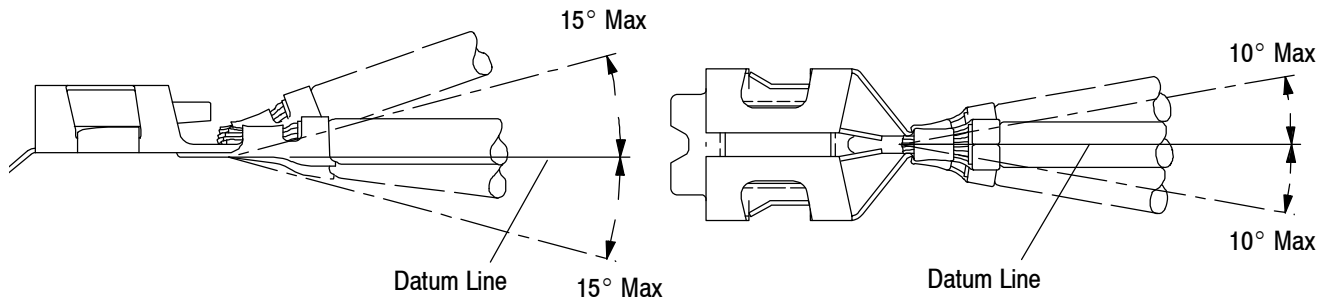

Figure 5
K. The contact, including the cutoff tab and burr, shall not be bent above or below the datum line more than the amount shown in Figure 5. The side-to-side bending of the contact shall not exceed the limits specified. There shall be no twist or roll in the crimped portion that will impair usage of the contact.